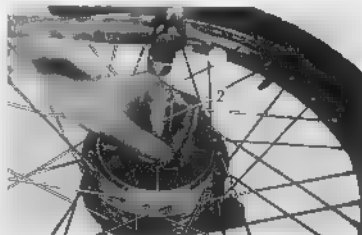

Fig. 4.101 Replacing ball bearing
3. Drive the ball bearing into the final driven flange, and install the oil seal and the rear axle sleeve collar. (Fig. 4.101)